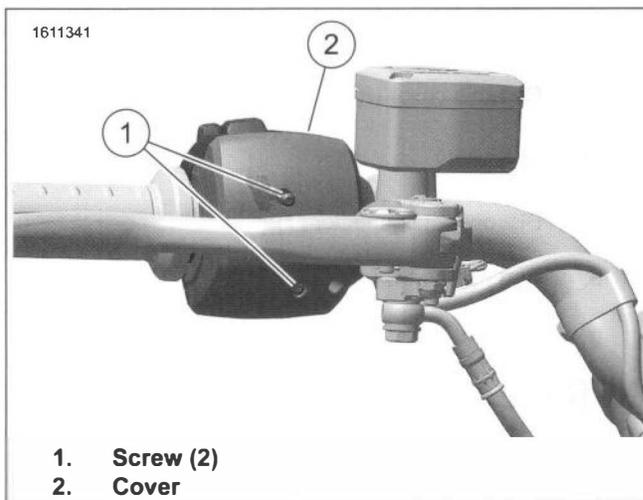
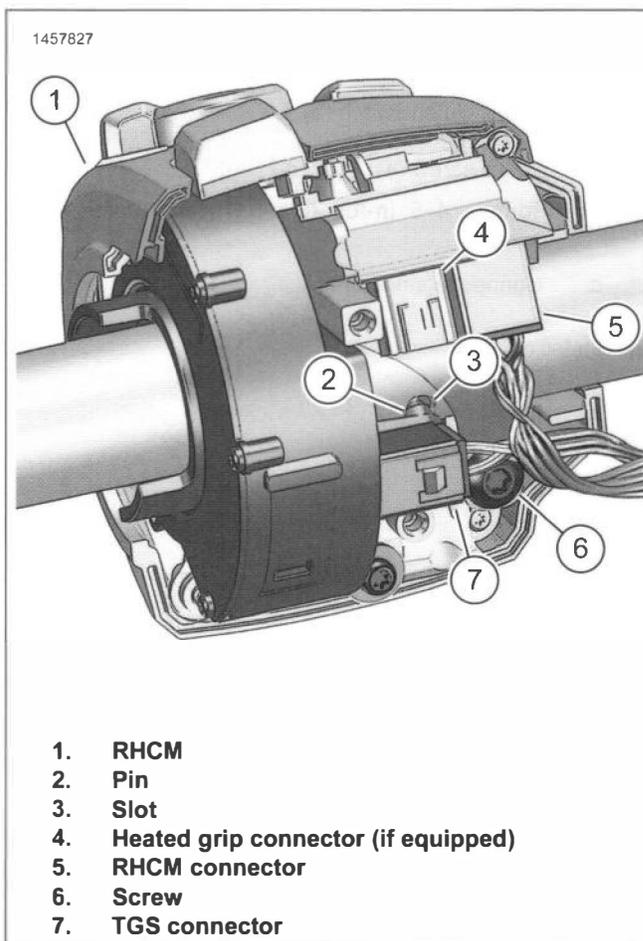

Figure 8-31. RHCM Rear Cover
Figure 8-32. RHCM Install (typical)
1. See Figure 8-31. Remove rear cover (2).
- a. Remove screws (1).
2. See Figure 8-32. Disconnect TGS connector (7).
3. Disconnect RHCM connector (5).
- c. Loosen screw (6).
- d. Lift pin (2) from slot (3).
- e. Remove RHCM (1) from handlebar.
1. See Figure 8-32. Position RHCM on handlebar.
- a. Engage pin (2) on RHCM with slot (3) in handlebar.
- b. Tighten clamp screw (6).
6. See Figure 8-31. Install rear cover (2).
- b. Install screws (1). Tighten.